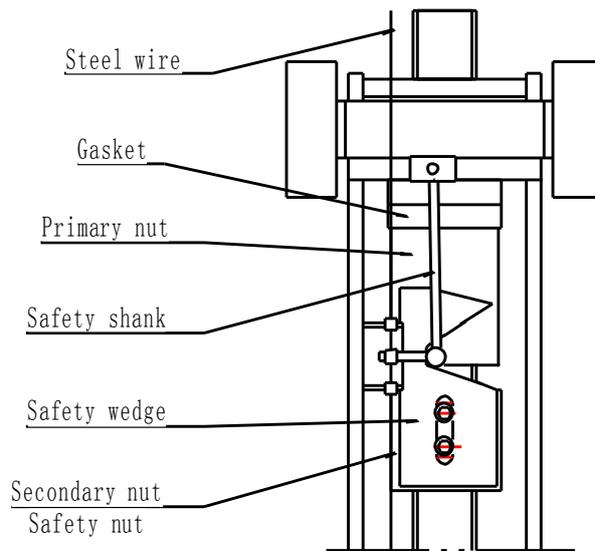

Figure 28 Sketch map for normal position of equipment
6.2.1 Check whether the red trouble indicator on the electric cabinet of each vertical post lights. If one indicator lights, this indicates the safety device of the mother nut is on. At this time, shut off the power supply, remove the front housing plate from the vertical post, and observe whether the mother nut and secondary nut are in right position. If the spiral cord is in normal position of Fig 28, consult an electrician to check whether the wires, cables or plugs are fractured or not.